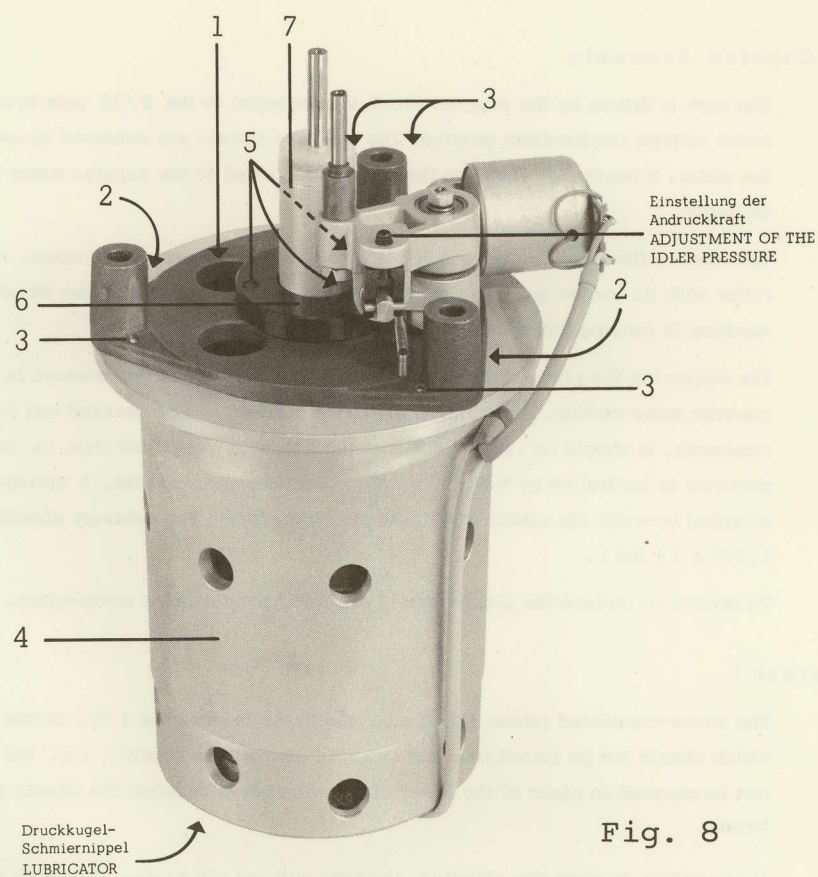

Fig. 8
- a. Remove the two M3 fixing screws of the rubber coupling through one of the two holes ( 1 in fig. 8 ) in the bearing flange. ( The screw heads can be aligned with the holes by turning the capstan ).
- b. Knock the two taper pins ( 2 in fig. 8, beside the casting marks ) out by means of a suitable punch from the bearing-flange-side.
- d. Remove the four M4 allen-screws ( 3 in fig. 8 ) on the underneath side of the flange of the motor screening case. Next, remove the capstan assembly with bearing flange and fly-wheel from the motor-housing ( 4 ), being careful to keep it in line.
- f. Remove the M5 allen screws ( 5 in fig. 8 ) from the underneath side of the bearing flange, and remove the fixing ring ( 6 in fig. 8 ) and the capstan bearing ( 7 in fig. 8 )
The four M4 allen screws ( 3 in fig. 8 ) should not be tightened until the two taper locating pins ( 2 in fig. 8 ) have been fitted.